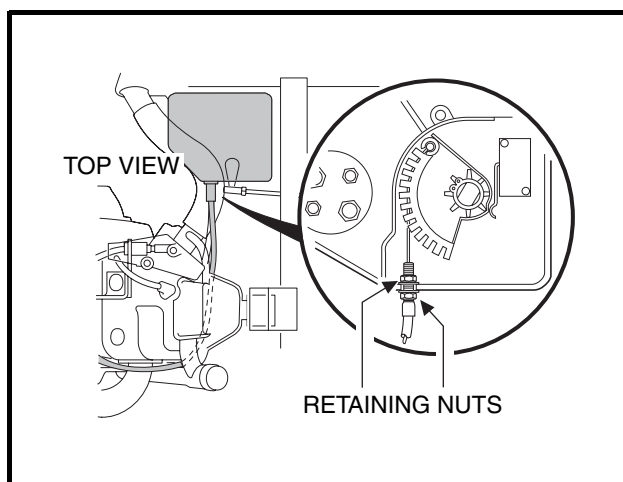

Figure 16-48 Connect Cable to Cam
25. Connect accelerator cable to actuator cam in the electrical box. Position the accelerator cable in the mounting slot in the wall of the electrical box and tighten mounting nuts to 18 in-lb (2.0 N·m) (**Figure 16-48, Page 16-17**). Install electrical box cover and tighten mounting screw.